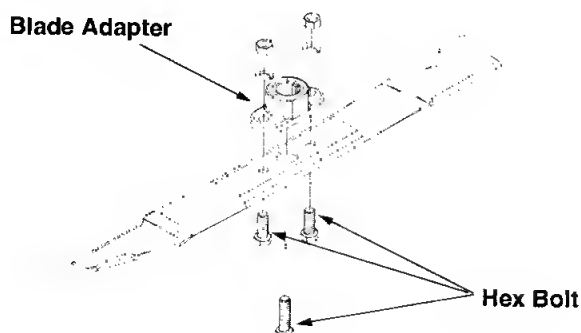

Figure 12
facing away from the adapter. See figure 12.
- Place the bell washer on the hex nut with the crowned side of the bell washer against the head of the bolt. See figure 12.